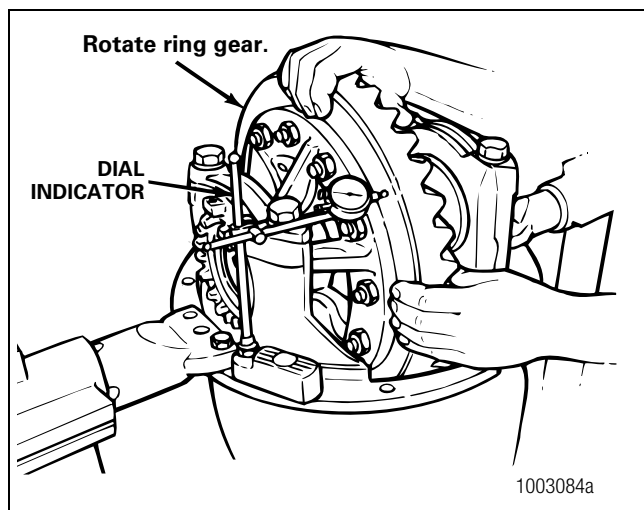

Figure 5.35
1. Attach a dial indicator onto the carrier's mounting flange. Figure 5.35.
3. Rotate the differential and ring gear. Read the dial indicator. Runout must not exceed 0.008-inch (0.20 mm). Figure 5.35.